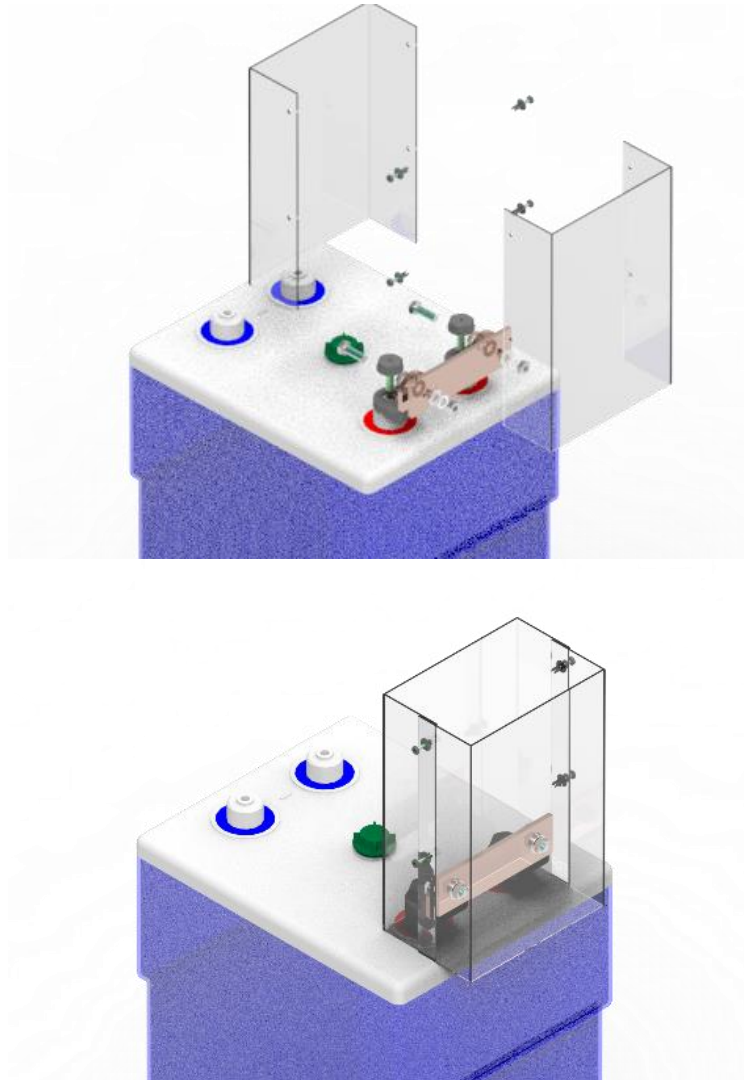

Figure 6.6.8-1 - Mounting the terminal plate to the end terminals of the battery
There are a total of 11 different types of connection plates (cf. Figure 6.6.8-1). Connection plates are always used when cables must be connected to cells with several battery terminals.
1. Screw the connection bracket onto the end terminals of the battery (cf. Figure 6.6.8-1).